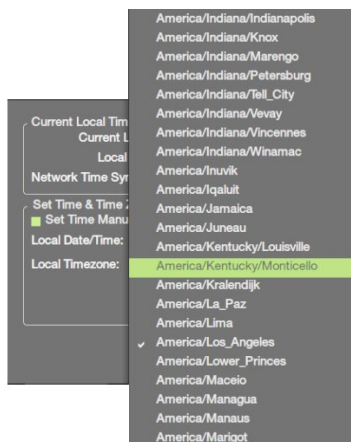

Figure 31: The Clock Set Menu
1. Click on the **Local Timezone** drop-down and select the location you want. Figure 31.